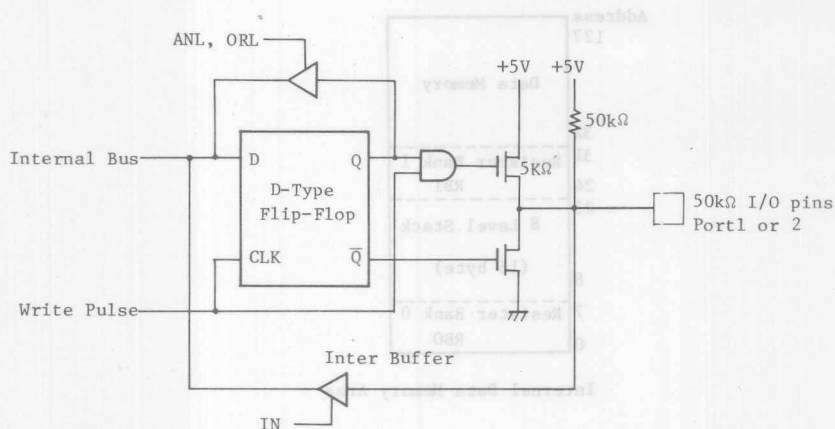

Fig.1 Input/Output Circuit of Port 1, Port 2
(2) Data Memory
(3) Input/Output Ports
- All lines of Ports 1 and 2 are called quasi-bidirectional because of a special output circuit structure (illustrated in Figure 1). Each line is continuously pulled to a +5V level through a high impedance resistive device (50K Ω) which is sufficient to provide the source current for a TTL high level yet can be pulled low by a standard TTL gate thus allowing the same pin to be used for both input and output. In order to speed up the "0" to "1" transition a low impedance device (5K Ω) is switched in momentarily whenever a "1" is written to line. When a "0" is written to line a low impedance device overcomes the pullup and provides TTL current sinking capability.